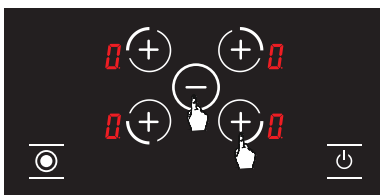

Figure 16
2. When you press the corresponding button at the same time, corresponding hotplate selection **0** the volume of the and the hotplate button **H** is reduced to **0**. (See Fig. 16.)